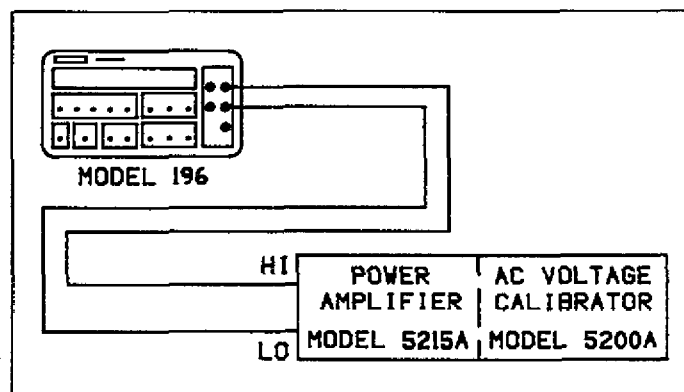

Figure 6-6. TRMS AC Volts Calibration Configuration
2. Connect the AC calibrator as shown in Figure 6-6.
- With the ACV function, autorange and 5½d resolution selected, connect the AC calibrator to the instrument as shown in Figure 6-6.
- With the ACV function and 5½d resolution selected, connect the AC calibrator to the instrument as shown in Figure 6-6.